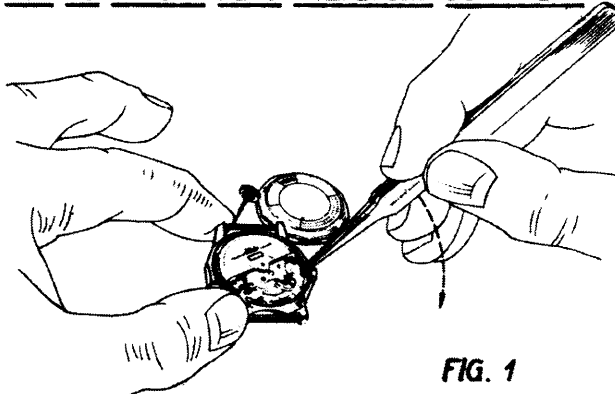
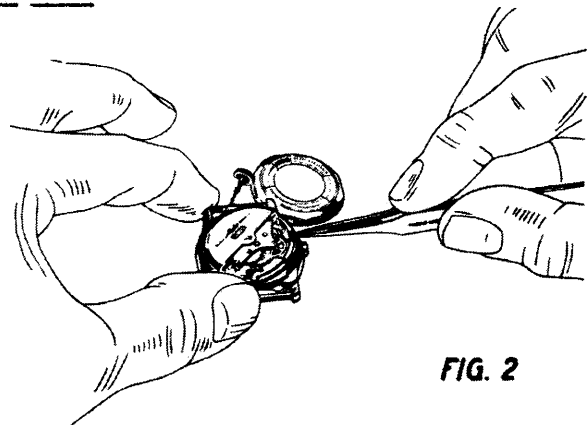

FIG. 1
FIG. 2
3. Insert tweezer into stem hole of the movement (Fig. 1), lift movement (Fig. 2), now loose, out of the case.